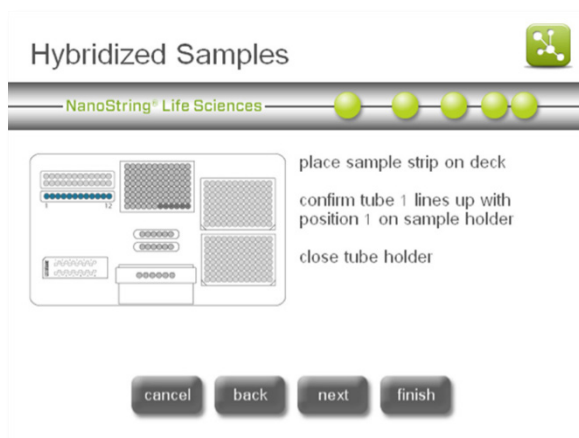
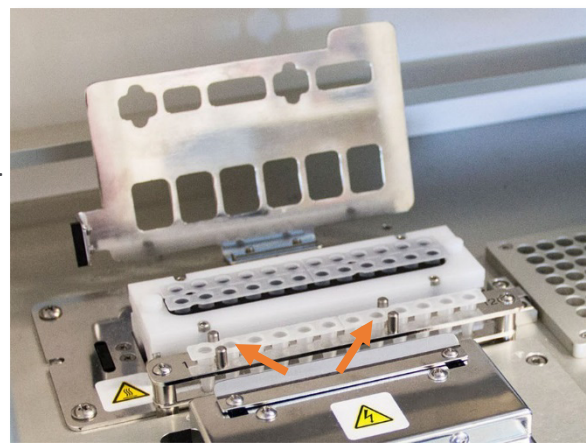

Figure 29: The 'Hybridized Samples' screen
Figure 30: Hybridization sample strip tubes with notched orientation guides.
- The 'Hybridized Samples' screen will appear (**Figure 29**). Lift the metal lid to place the hybridized sample strip tube in the sample strip holder, ensuring that tube 1 aligns with position 1 (**Figure 30**). Note that the strip tube is asymmetrically keyed, and if the strip tube is placed incorrectly, the lid won't close properly, and the Prep Station will not be able to start processing. Close the metal lid and press **next**.